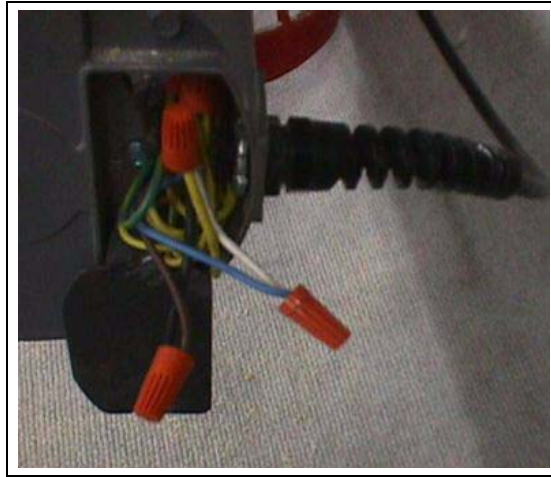

Figure 7BM
8. Wire control pan to power source. *(See Figure 7BN.)*